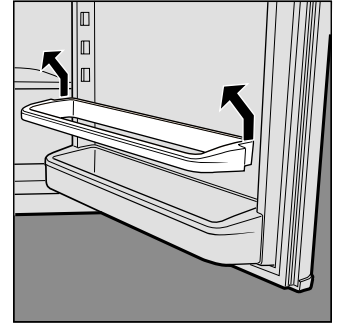

Fig. 2
- The rail (item "D") is removable (Fig. 2), and, therefore, it can be positioned on any shelf depending on your particular needs.